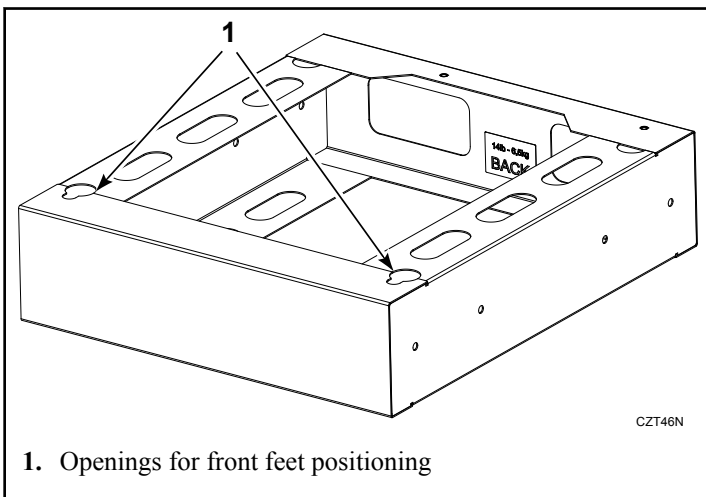

Figure 24
8. Carefully shift the dryer into the correct position on the base frame. The front feet must fit into the round openings in the base frame, refer to *Figure 24*.